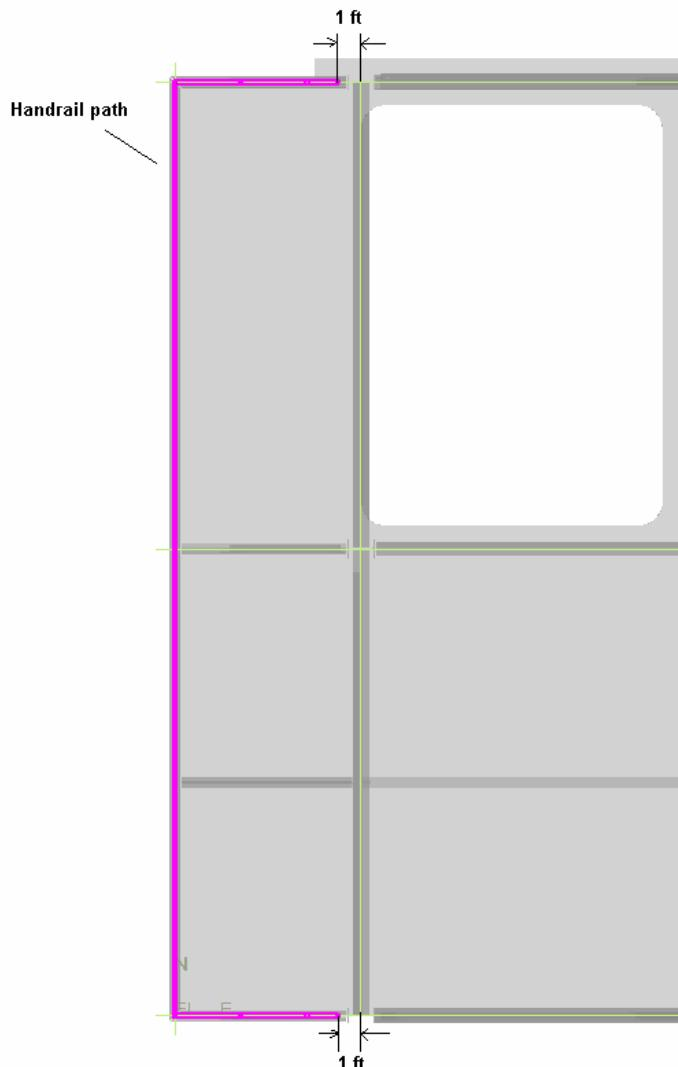

Figure 22 – Top View of the two-story building.
- 3 Define the handrail path as shown in Figure 22.